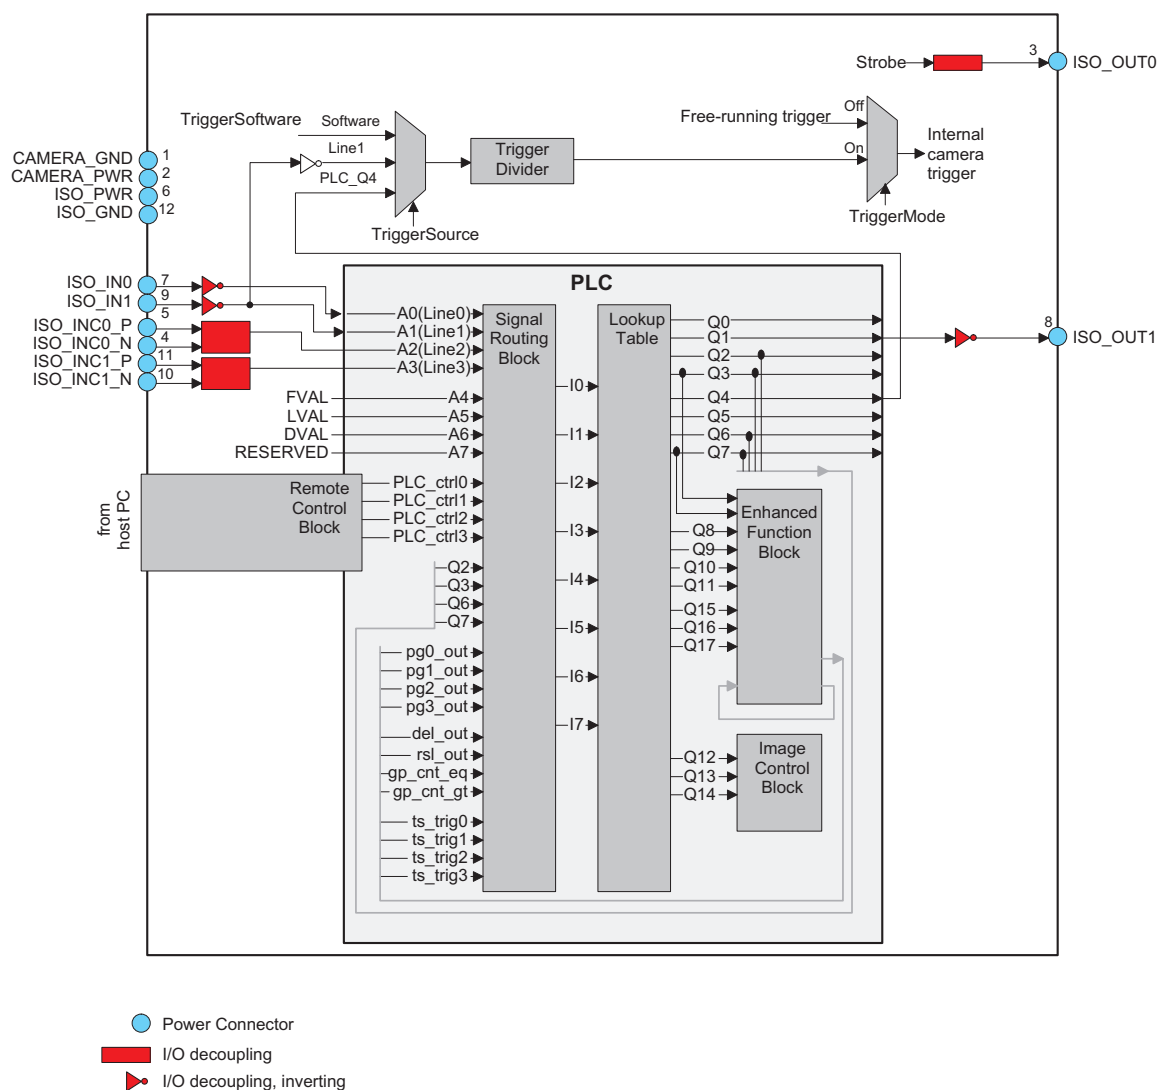

Figure 6.4: PLC functional overview
The Programmable Logic Controller (PLC) is a powerful tool to generate triggers and software interrupts. A functional diagram of the PLC tool is shown in Fig. 6.4. THE PLC tool is described in detail with many examples in the [PLC] manual which is included in the PFInstaller.
1. Identify the PLC notation of the desired input in Fig. 6.4. In our example, ISO_IN0 maps to A0 or Line0.